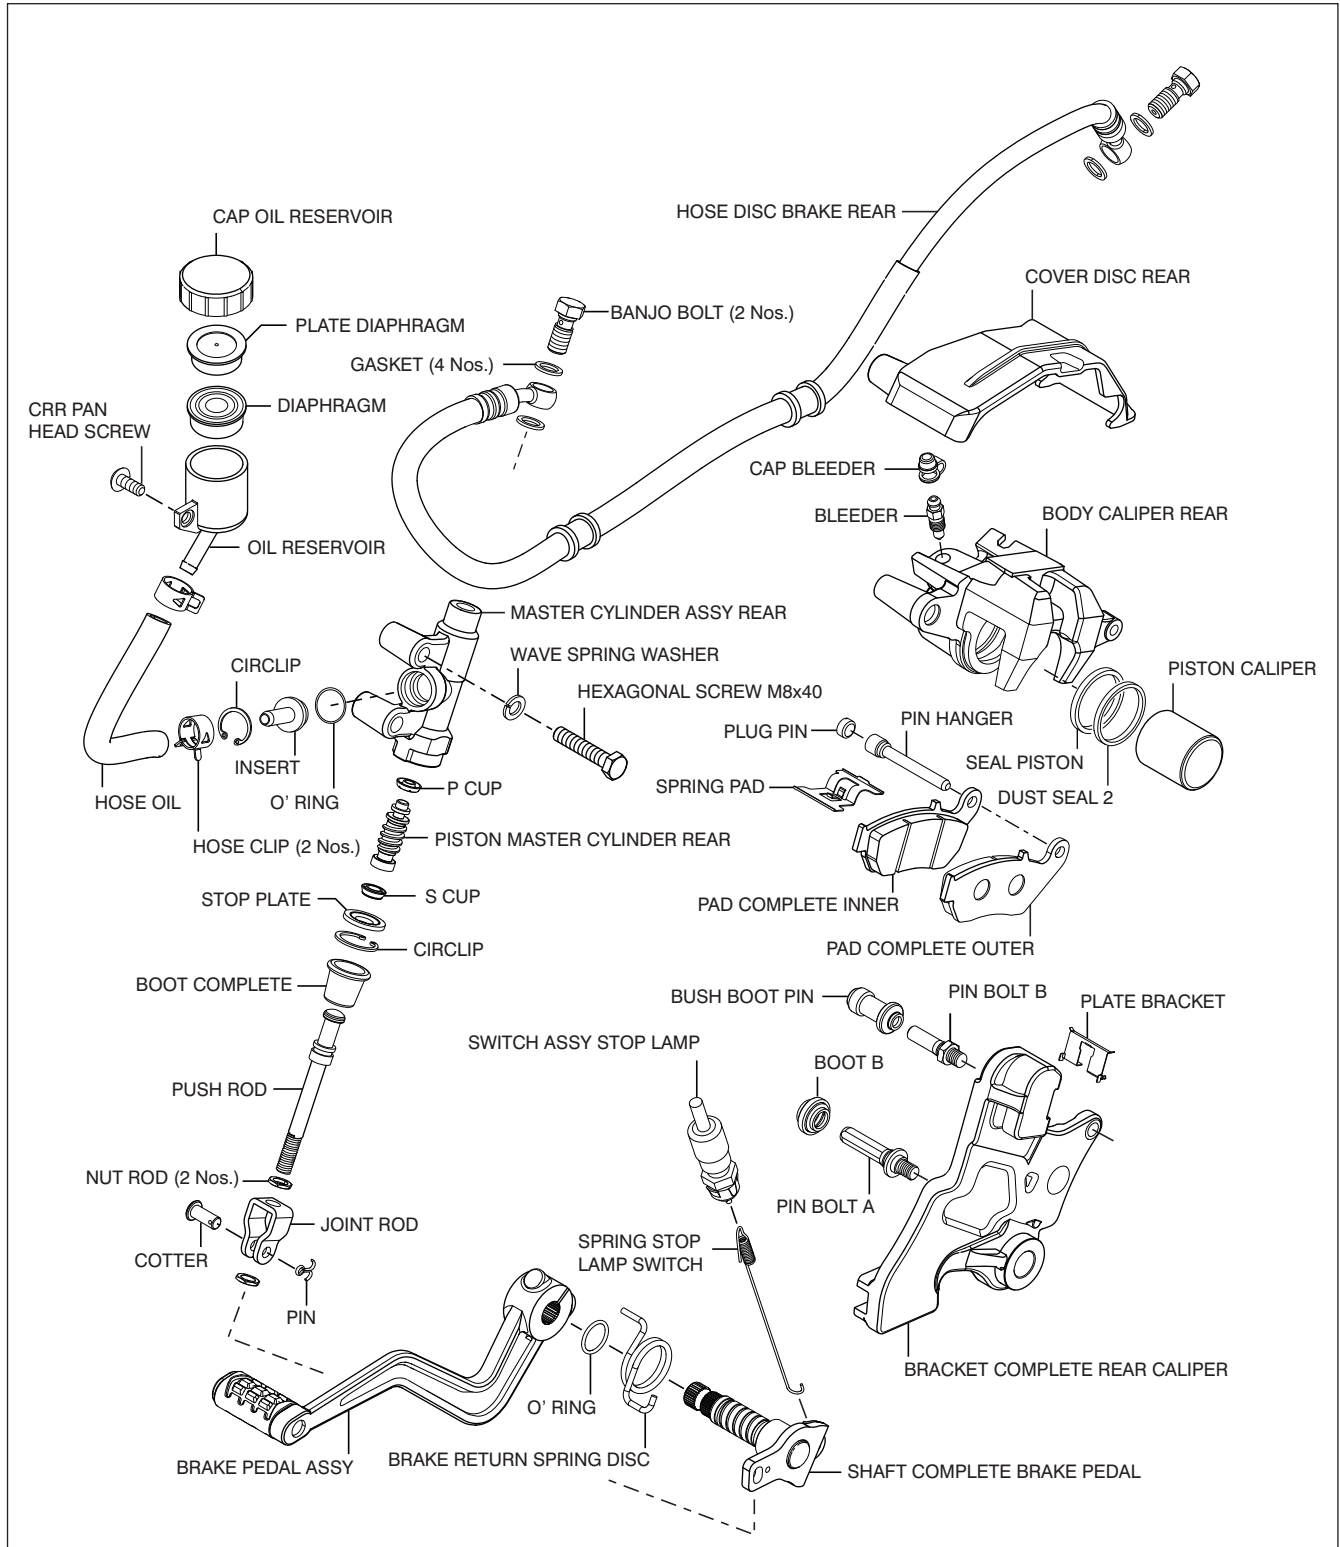

Fig. 6.130
- Reassemble master cylinder in the reverse order of dismantling. Refer exploded view for assembly details. (Fig. 6.130)